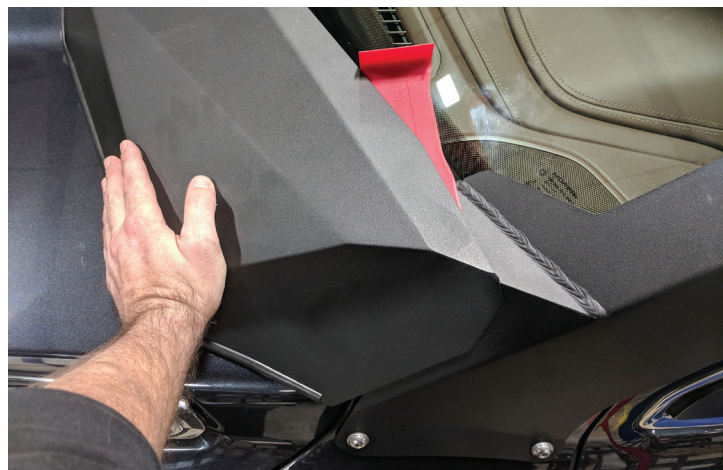

Figure 31
45. Using a plastic panel pry bar, insert the prybar under the Cowl and on top of the arm to maintain a symmetrical gap on each arm. (Figure 31)